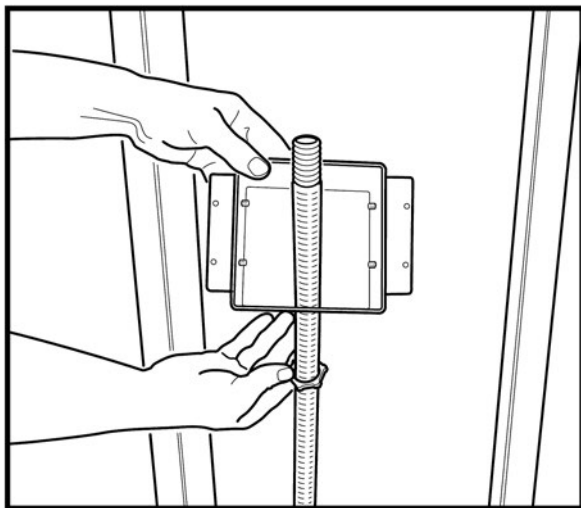

Figure: 4-28
2. Remove box cover and slip locknut and box over end of pipe. Figure: 4-28